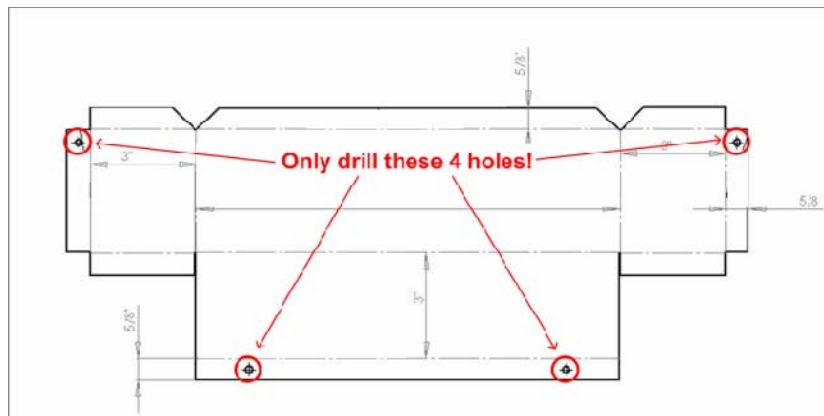

Figure 1: Step 2 holes- Only mark and drill holes in the four holes shown in Drawing 3.
Step 2: Create dents using **Center Punch** and **Hammer** where holes will be drilled in the work piece for attachment to wall. See Figure 1.